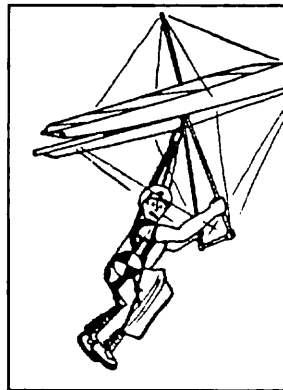

Figure 53
a) Harness leg straps too long / hanging too low below the glider, and / or hands too low on the control bar. This reduces pitch authority and prevents an adequate flare. (Figure 53)